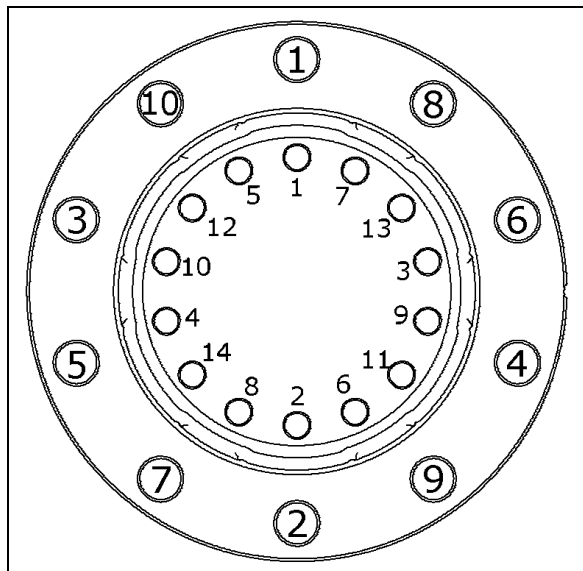

FIGURE 3: TIGHTENING SEQUENCE
It is also important that wheel stud nuts be tightened alternately on opposite sides of the wheel. Refer to Figure 3 for the suggested tightening sequence.
Tighten stud nuts progressively as shown in Figure 3. The final tightening should be done with a torque wrench. Tighten stud nuts to 450 - 500 lbf-ft (610 - 680 Nm) for aluminum as well as steel wheels.
2. Screw in the hex stud nuts (refer to Figure 3 for sequence) so that wheel will position itself concentrically with hub. This is important, otherwise wheel may be eccentric with hub and will not run straight. In this initial step, slightly tighten the nuts to correctly position the wheel;
3. Tighten stud nuts progressively as shown in Figure 3. The final tightening should be done with a torque wrench. Tighten stud nuts to 450 - 500 lbf-ft (610 - 680 Nm) for aluminum as well as steel wheel.
With inner and outer wheels installed, tighten the stud nuts progressively as shown in Figure 3. The final tightening should be done with a torque wrench. Tighten stud nuts to 450 - 500 lbf-ft (610 - 680 Nm) for aluminum as well as steel wheel.
Repeat for each of the 10 "hex stud nuts" according to the tightening sequence in figure 3.
Using a calibrated torque wrench, tighten wheel nuts to 450 - 500 lbf-ft (610 - 680 Nm) of torque. Do not use power tools or long bars for tightening. Tighten wheel nuts alternately as shown in figure 3.